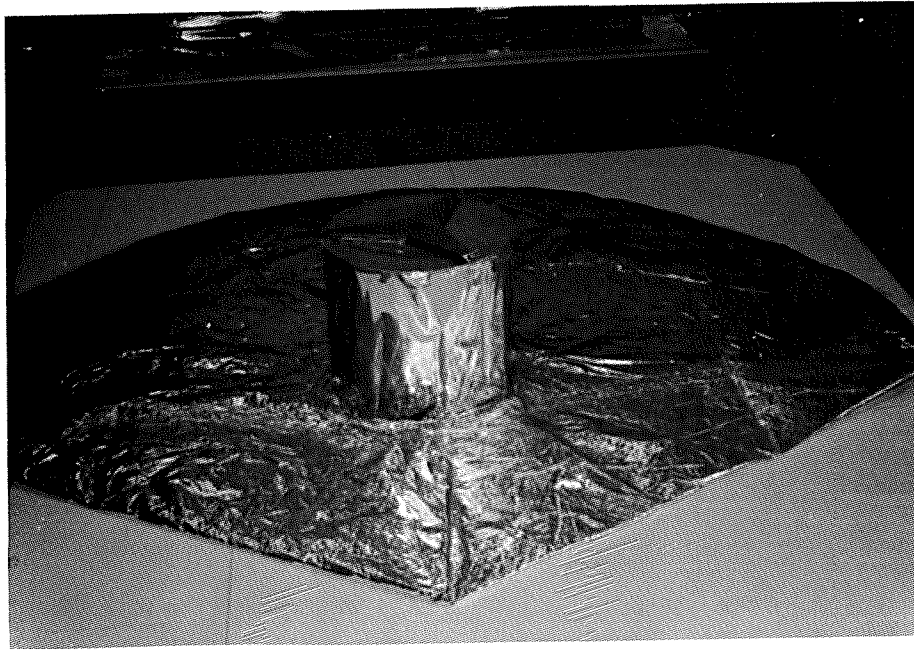

FIG. 3
**STEP 3.** Make second skirt fold similar to first as shown in Figure 3. Again align edge with upright cylinder and next adjacent skirt button. Squeeze out excess air.